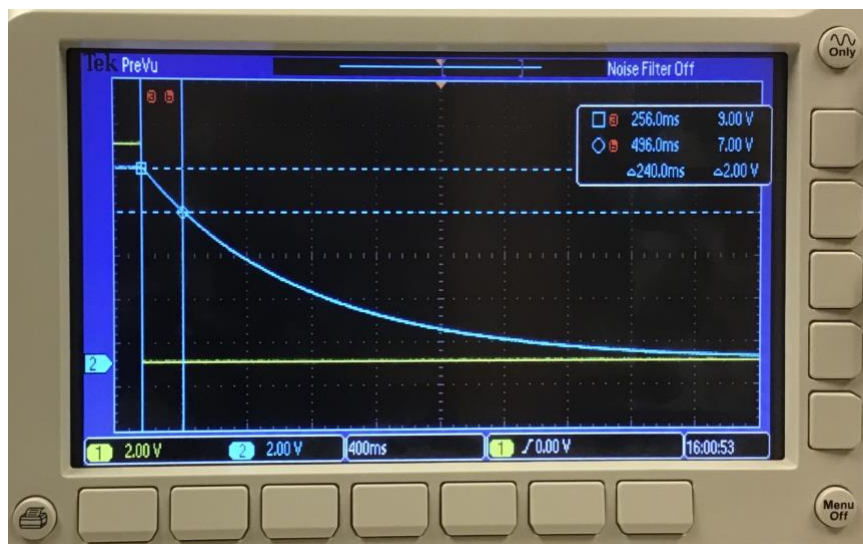

Figure 8. Measuring the discharge time across the capacitor after the initial value has dropped 2V using the cursors.
- Set the time base to 400 ms and using the Run/Stop button, capture a decay (or charge) curve. You should see a signal close to what is displayed in Figure 8 except the location of your cursors may be different.